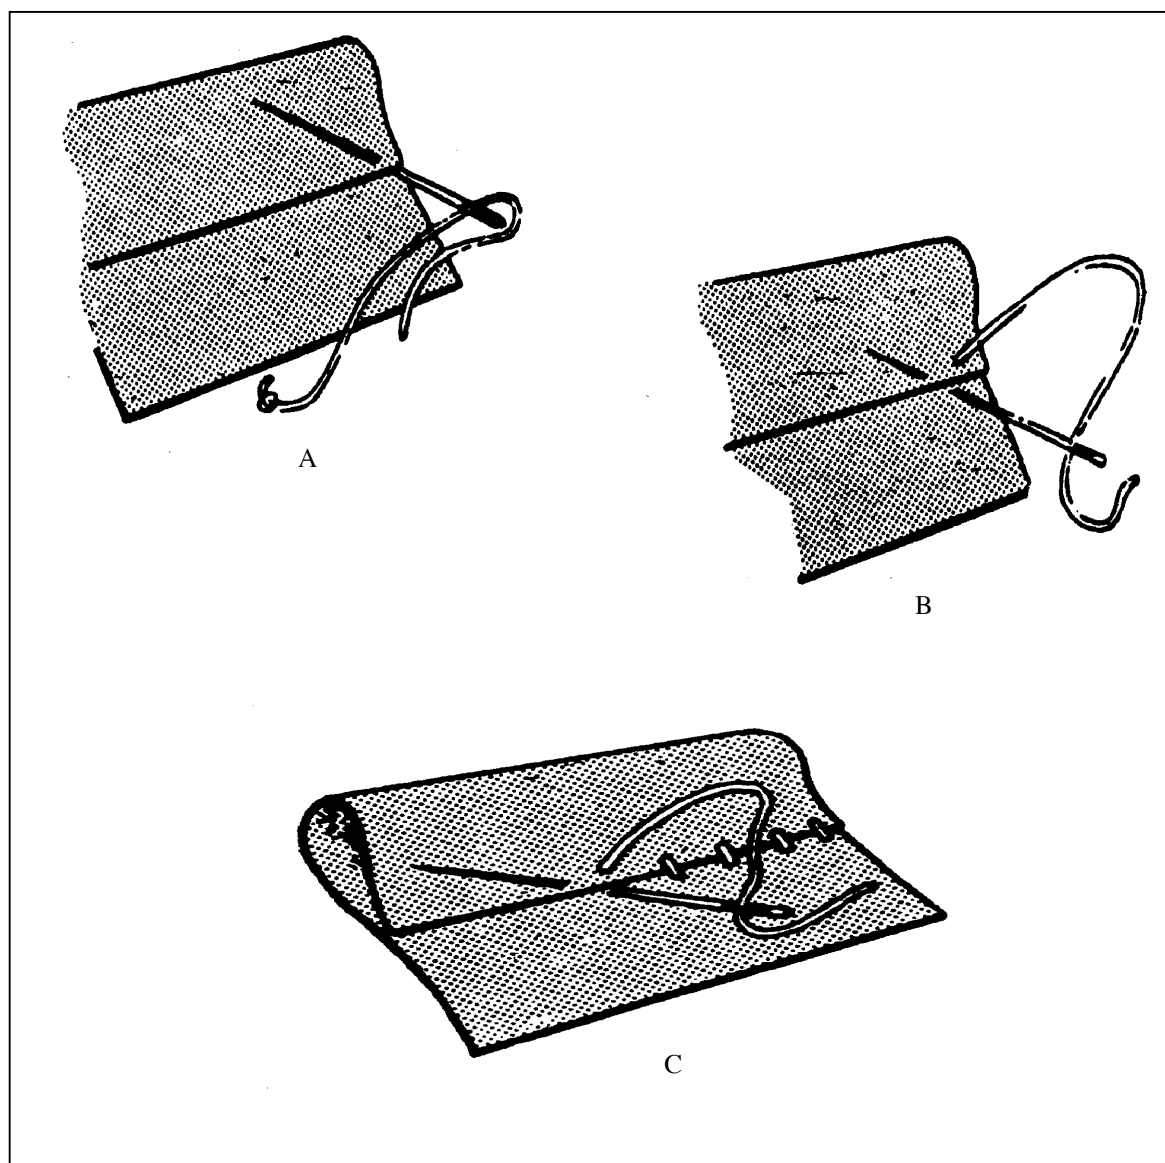

Figure 2-5. Felling stitch
b. Felling Stitch (Vertical Hemming or Overhand Stitch). The felling stitch (Figure 2-5) is a form of blind stitch used in most instances to hem or to hold two pieces of material together where a machine cannot satisfactorily operate, for example, sleeves on wool jackets. It is possible to sew the lining by machine; however, the machine sewn stitch through the sleeve would not present a neat military appearance. In some cases, the waistband on trousers are felled in by hand. The felling stitch can be used only on smooth edges where no thread has become unraveled. The rough edges of the fabric is turned under before stitching. The length of the felling stitch is determined by the job it has to perform; normally, the felling stitches should be $1/8$ of an inch apart, depending on the type of work to be done.